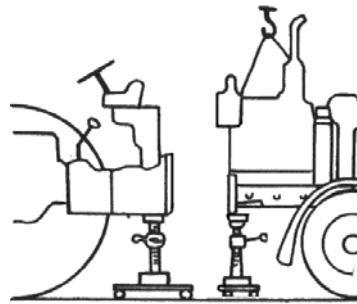

Figure 4.3
- l) bring under clutch coupling body the threaded support P-7521-01 (or similar to it) (Figure 4.3);